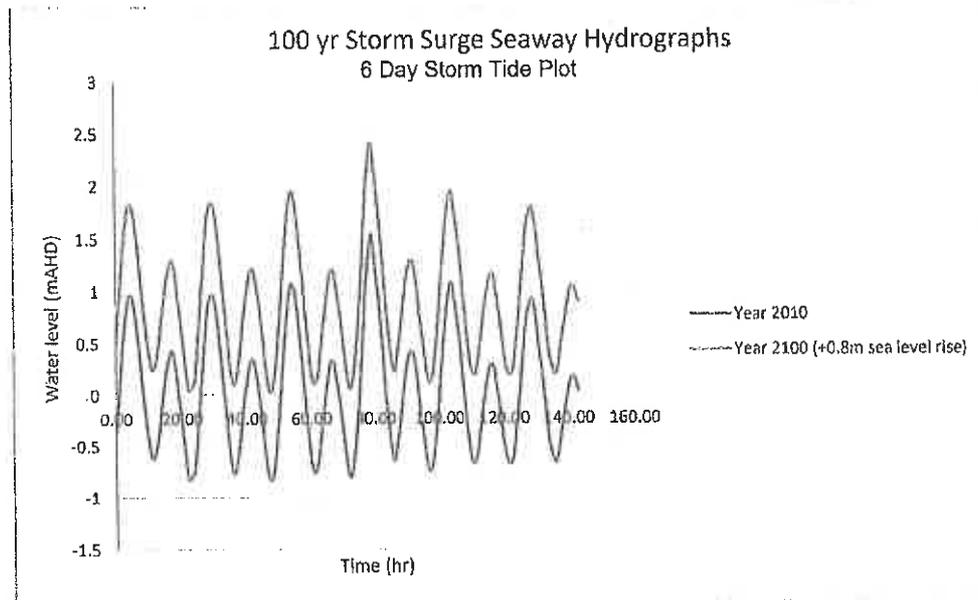
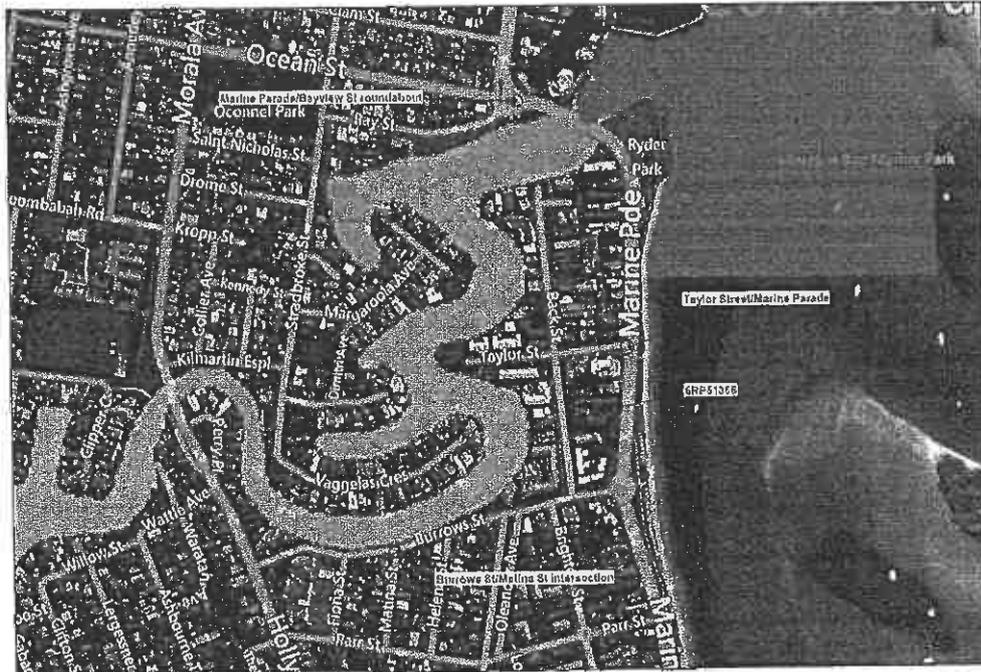

Figure 2.2 CoGC MIKE FLOOD model Storm Surge Plot
Figure 2.3 CoGC MIKE FLOOD model year 2010 map
Interrogation of the City of the Gold Coast's MIKE FLOOD model provides a series of hourly storm tide plots for a period of five (5) days (120 hours). Figure 2.2 below depicts a plot of storm tide data provided for the Southport Seaway using the year 2010 100 year ARI event and the year 2100 100 year ARI event (+0.8m sea level rise).
Figure 2.2 and Figure 2.3 shows modelling undertaken using Council's MIKE FLOOD model identifies that the height of a 100 year ARI storm surge event with the tailwater condition accounting for a future climate change of the year 2100 is the critical event for the site. It is therefore important to identify that this site is affected by storm tide inundation from this event only.